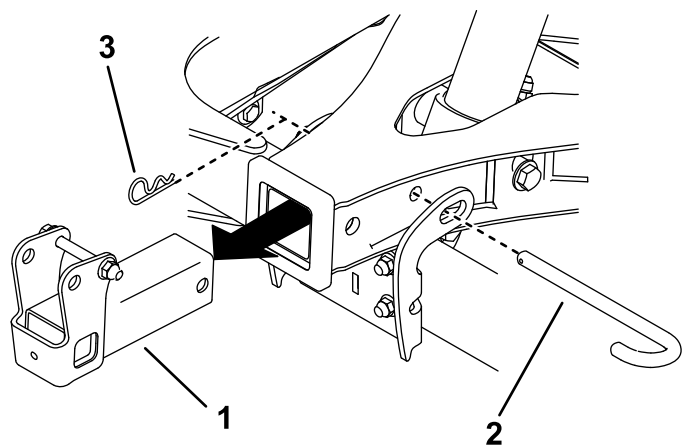

Figure 28
7. Remove the hitch pin, cotter pin, and hitch receiver from the A-frame. Install the hitch pin and cotter pin to secure the A-frame (Figure 28).